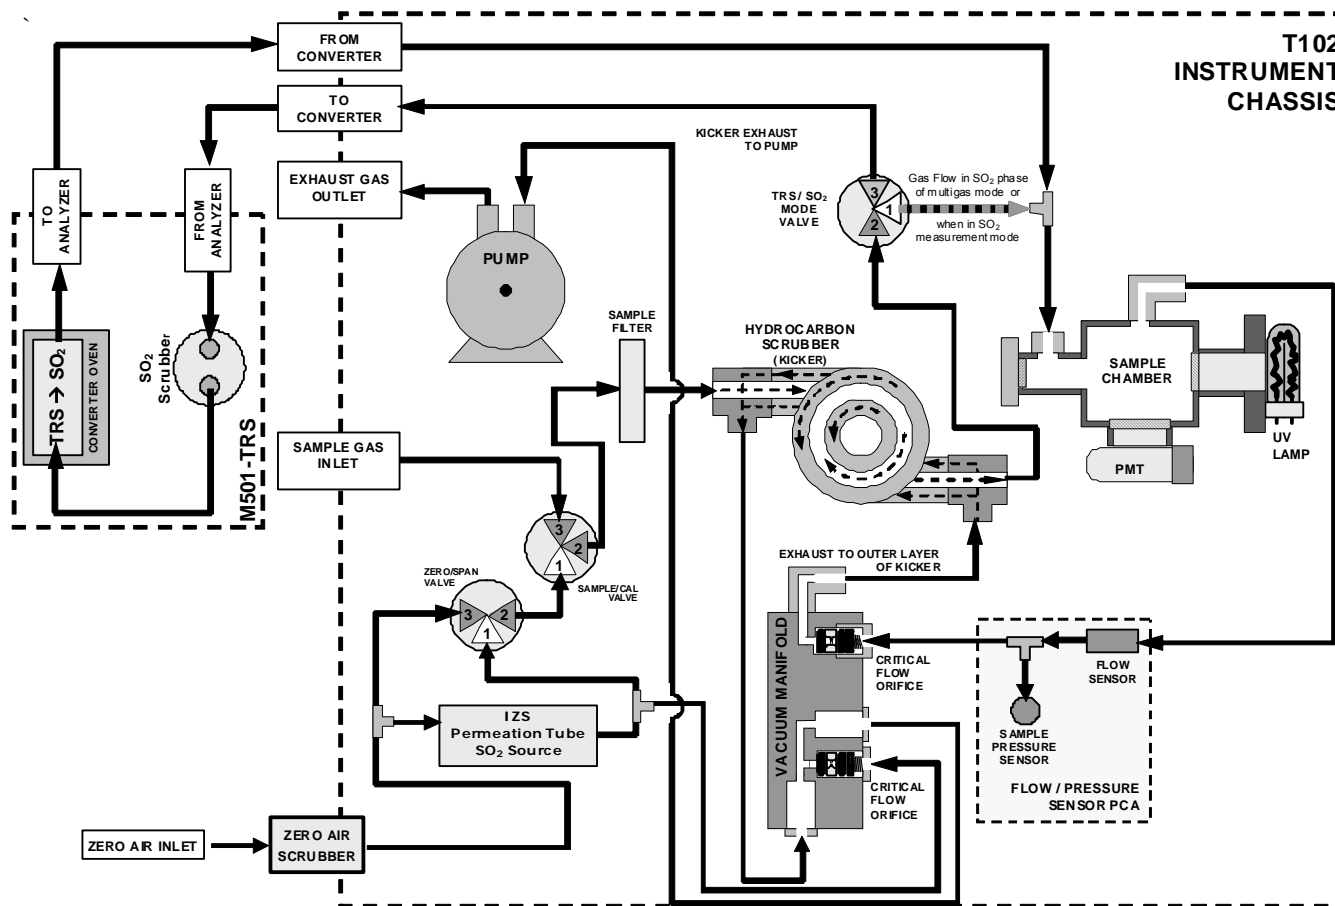

Figure 5-2. Internal Pneumatic Diagram of the T102 with IZS Options Installed
- Figure 5-2 for an illustration of the T102 internal gas flow with the IZS valve option